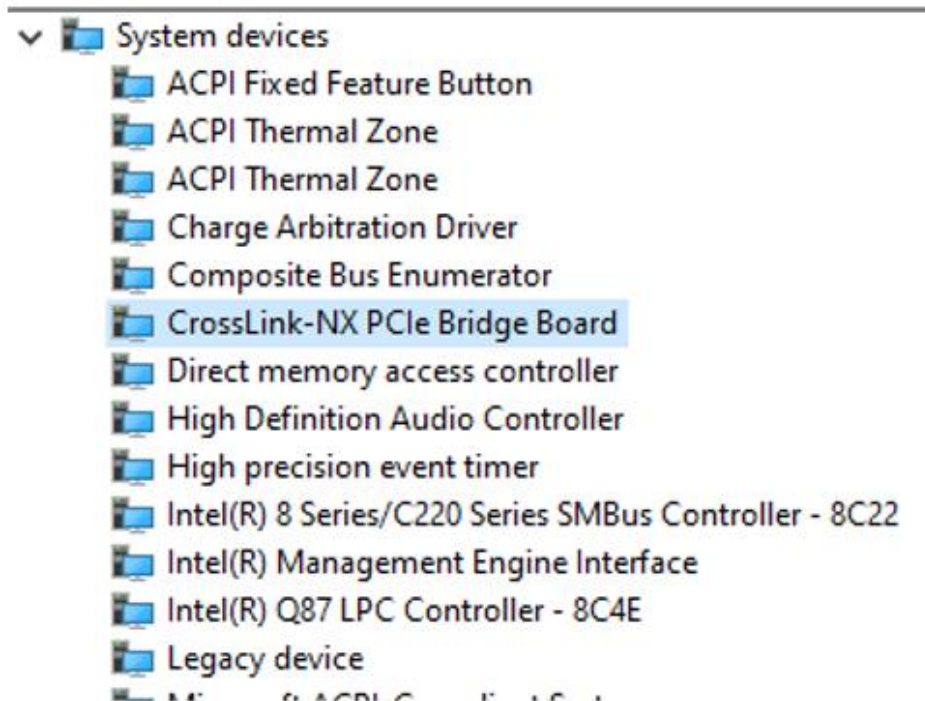
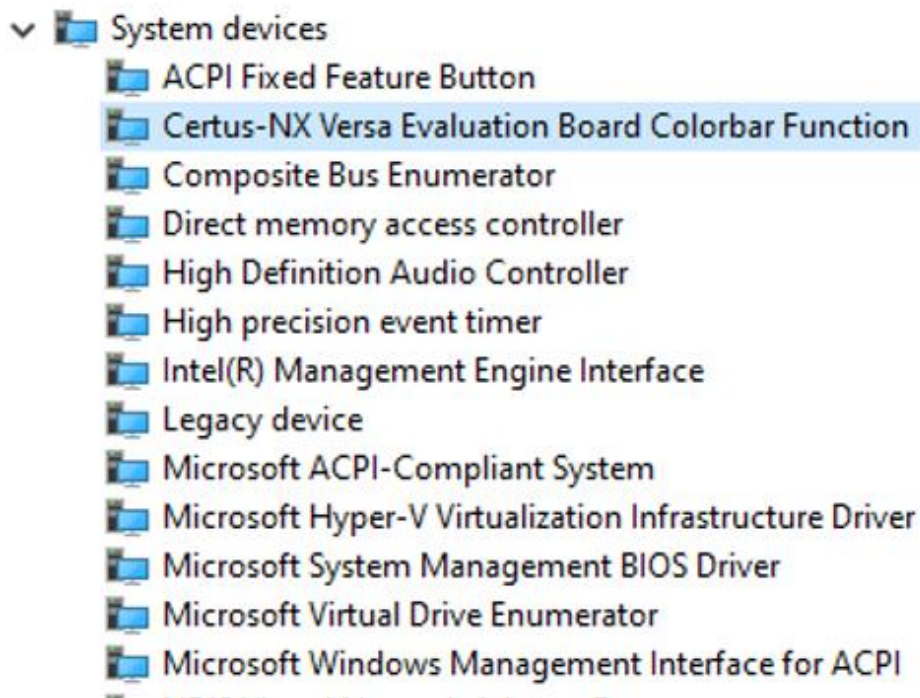
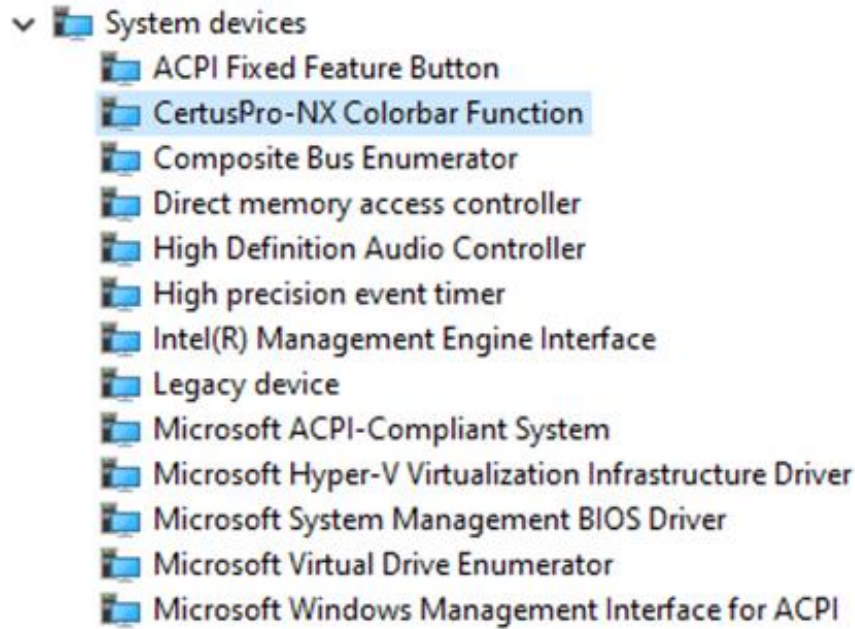

Figure 3.43. CrossLink-NX Colorbar Demo Device Name Displayed in Device Manager
Figure 3.44. Certus-NX Colorbar Demo Device Name Displayed in Device Manager
Figure 3.45. CertusPro-NX Colorbar Demo Device Name Displayed in Device Manager
9. After the driver is installed, the device driver name is displayed in Device Manager, as shown in Figure 3.43 for CrossLink-NX devices, Figure 3.44 for Certus-NX devices, and Figure 3.45 for CertusPro-NX devices.